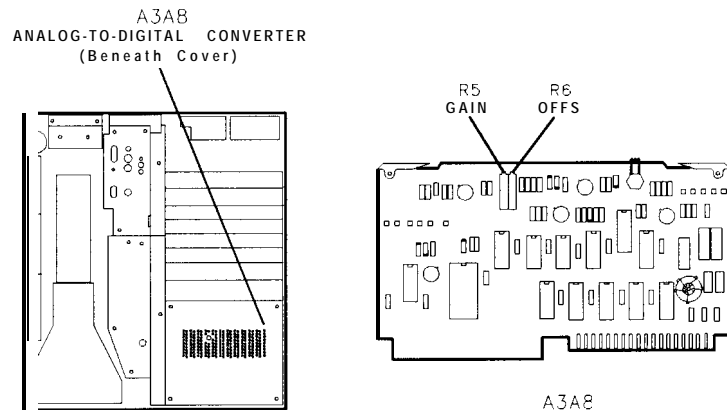

Figure 3-86.
- f. Adjust A3A8R6 OFFS for a square wave displayed on the oscilloscope. The square wave should be approximately 4 V_{p-p}. See Figure 3-86 for location of adjustment.
1. Adjust A3A8R5 GAIN for a square wave displayed on the oscilloscope. The square wave should be approximately 4 V_{p-p}. See Figure 3-86 for location of adjustment.
- f. Adjust A3A8R6 OFFS until **the** level at A3A8TP11 is at a maximum ac voltage as indicated by the DVM (approximately 2.0 V ac). See Figure 3-86 for location of adjustment.